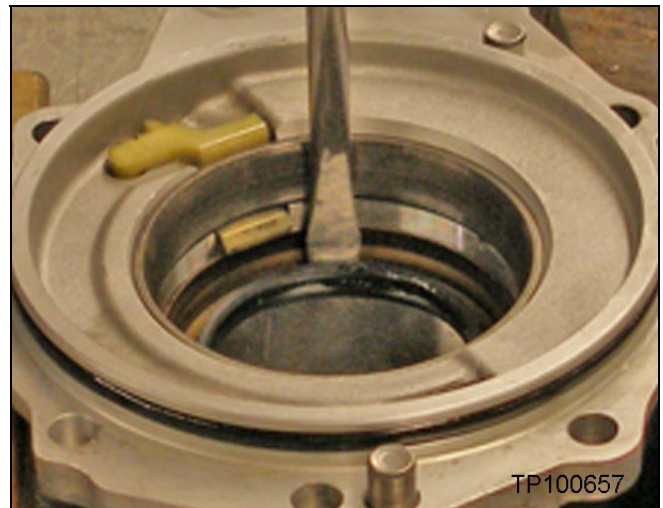

Figure 11
**CAUTION:** Tap out only from behind the seal lip where shown in Figure 11.